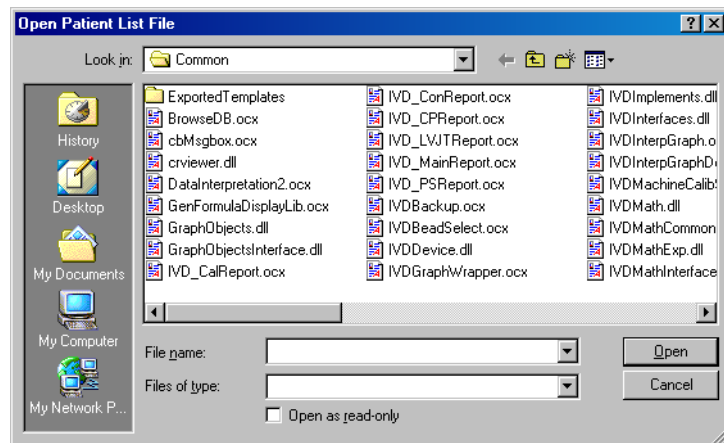

Figure 5-28. Open Patient List File Dialog Box
10. To add a patient file to the batch, click **Load Pa List**. An **Open Patient List File** dialog box opens. See Figure 5-28. If you do not want to add a patient list to the batch, skip to step 11.